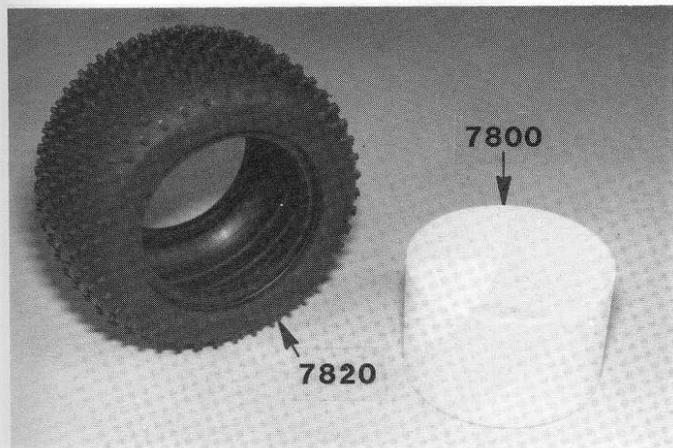

Fig. 148
□ **Figs. 148 & 149** Take the #7820 rear tire and insert the #7800 sleeve into the tire. Do both tires.